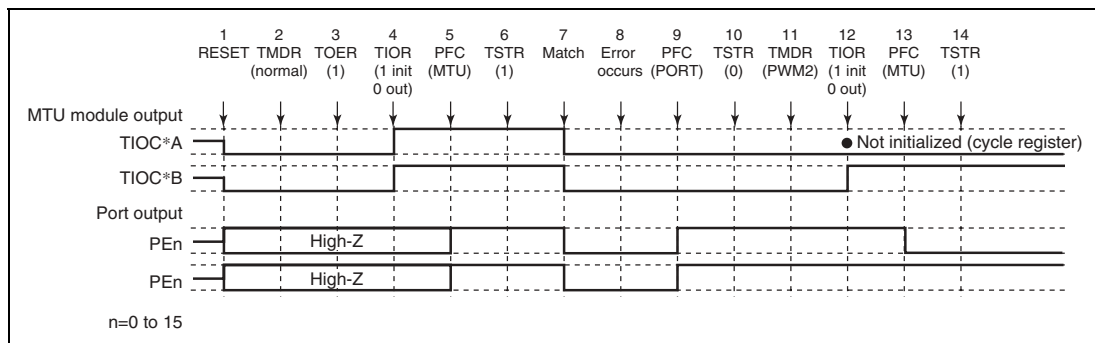

**Figure 11.87 Error Occurrence in Normal Mode, Recovery in PWM Mode 2**
**Operation when Error Occurs during Normal Mode Operation, and Operation is Restarted in PWM Mode 2:** Figure 11.87 shows an explanatory diagram of the case where an error occurs in normal mode and operation is restarted in PWM mode 2 after re-setting.